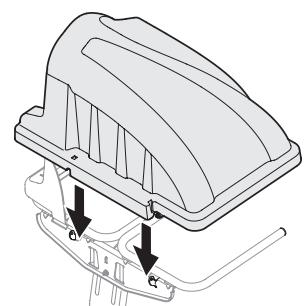

Figure 12
- Install the bagger cover onto the hanger assembly, as seen in Figure 12. The cover goes inside the two mounting tabs.